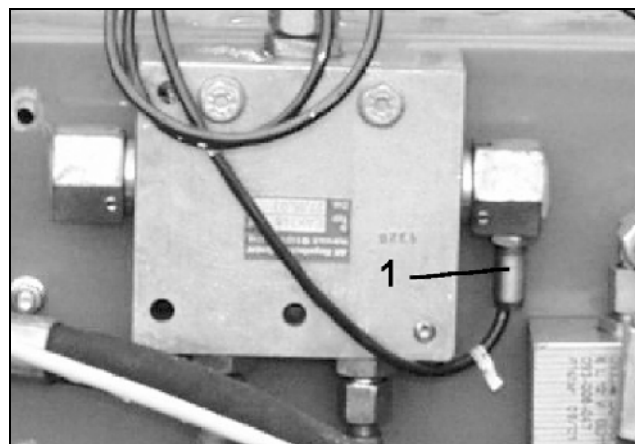

Fig. 63
- on implements with track markers from the sensors (Fig. 63/1) when changing the track marker
- on implements without track markers as soon as the distance sensor (Fig. 63/1) does not send any impulses, e.g. when raising the implement at the headlands or at a standstill in the field.